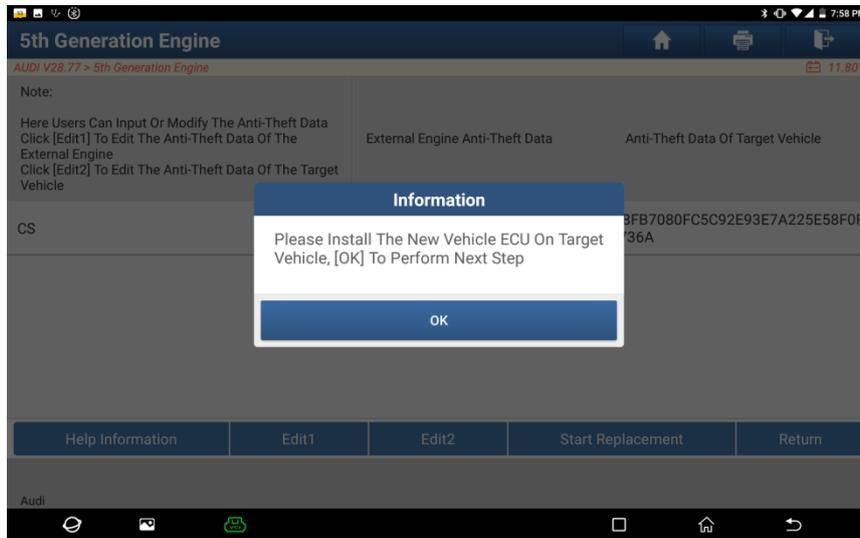

Figure 26
3.2.2.3 Click [Start Replacement], at this time, you need to install the external Engine on the target vehicle, as shown in Figure 26.